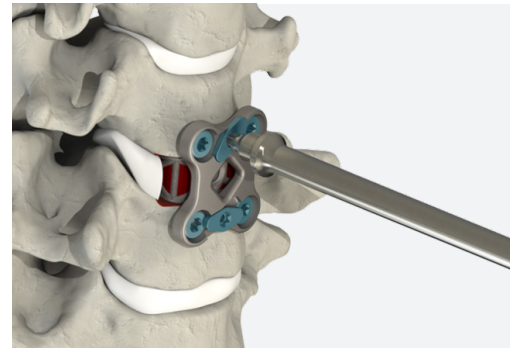
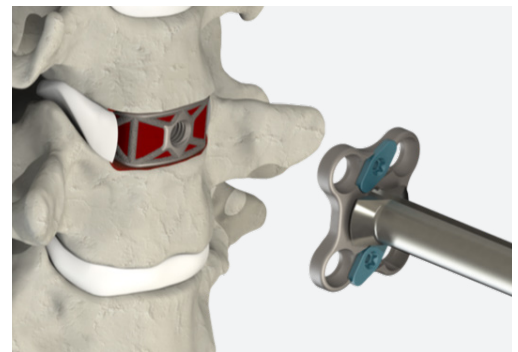

Figure 16
Figure 17
- ▲ If Plate removal is necessary, rotate the Anti-Backout Plates until the screws are no longer retained (Fig. 16). Remove the screws using the Driver and remove the Plate using the Plate Inserter (Fig. 17).